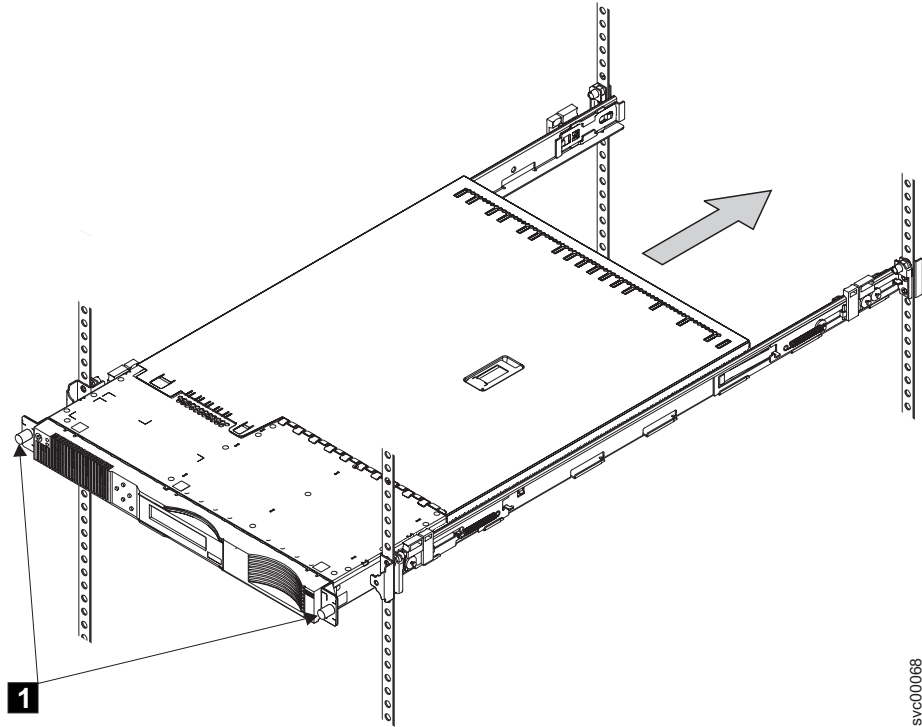

Figure 112. Attaching the SAN Volume Controller 2145-4F2 with the front screws
2. Screw in the two front screws (1 in Figure 112 on page 447).
Note: The front of the rail assembly looks different from the front, as you can see in Figure 112 on page 447.